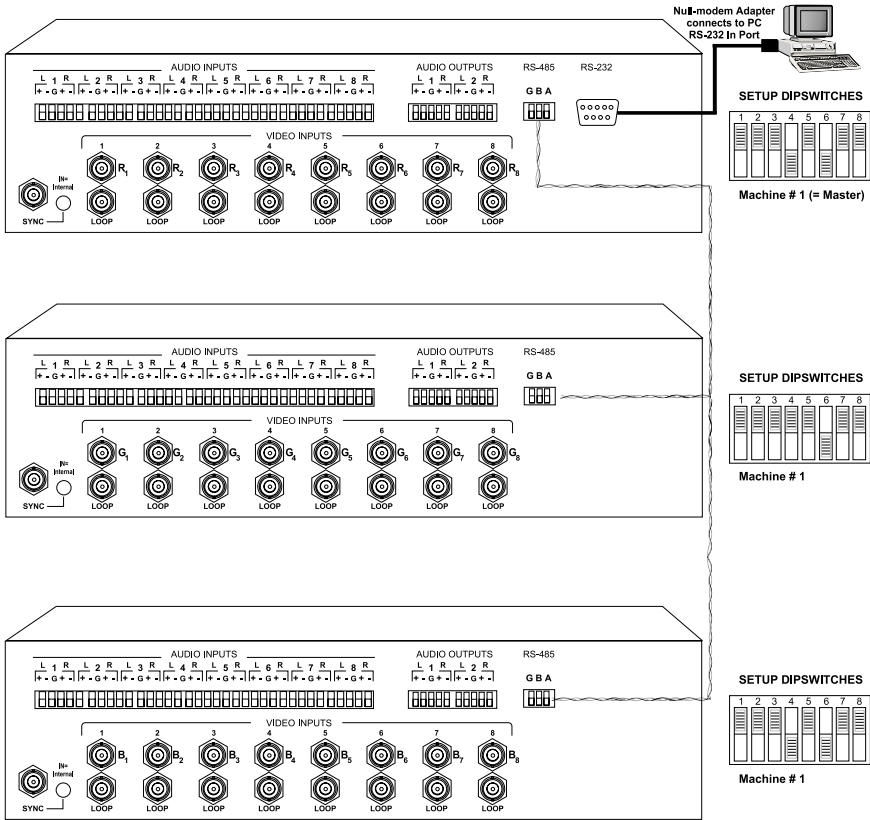

Figure 8: Cascading a set of 3 Units in a (RGB) Parallel Configuration
1. Connect the video sources and acceptors, as well as the appropriate audio sources and acceptors, by reassigning the composite video inputs, 1 to 8, as Figure 8 illustrates, as follows: